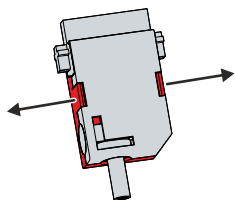

Fig. 15: CP27xx_disassembly of strain relief housing
1. Use your fingers to bend the latching lugs on the lower part slightly outwards (see Fig. 15).